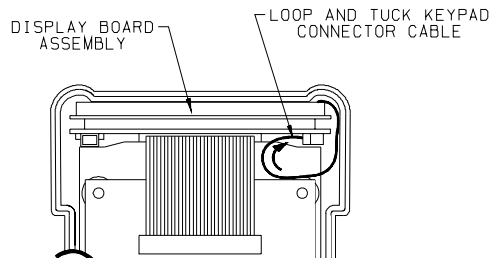

Figure 3-4.
20. Grasp keypad ribbon cable, form cable into loop and insert ribbon edge into socket on the right-hand corner (FIGURE 3-4).